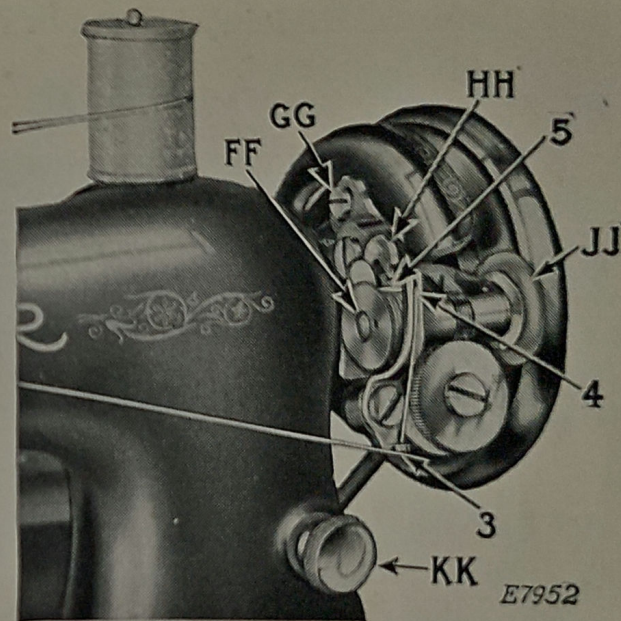

FIG. 14. WINDING THE BOBBIN
Place the bobbin on the bobbin winder spindle (FF, Fig. 14) and push it up closely against the shoulder, having the small pin in the spindle enter the hole in the side of the bobbin. Put the spool of thread on the spool pin (1, Fig. 13). Pass the end of the thread into the thread guide (2, Fig. 13) then up into the lower eyelet (3, Fig. 14) of the bobbin winder thread guide, into the notch (4, Fig. 14) and pass the thread through the hole in the left side of the bobbin (5, Fig. 14), from the inside. Press the bobbin winder pulley (JJ, Fig. 14) down on the
balance wheel hub, and the latch (HH, Fig. 14) will drop down and hold it. Then press the knee lever the same as for sewing.
If the pressure of the rubber ring (JJ, Fig. 14) against the hub of the balance wheel is insufficient for winding the bobbin, loosen the adjusting screw (GG, Fig. 14) and press the bobbin winder lightly until the rubber ring is in contact with the hub of the balance wheel; then tighten the screw (GG).
The length of stitch is regulated by the large thumb screw (KK, Fig. 14, page 15) at the front of the machine near the bobbin winder.